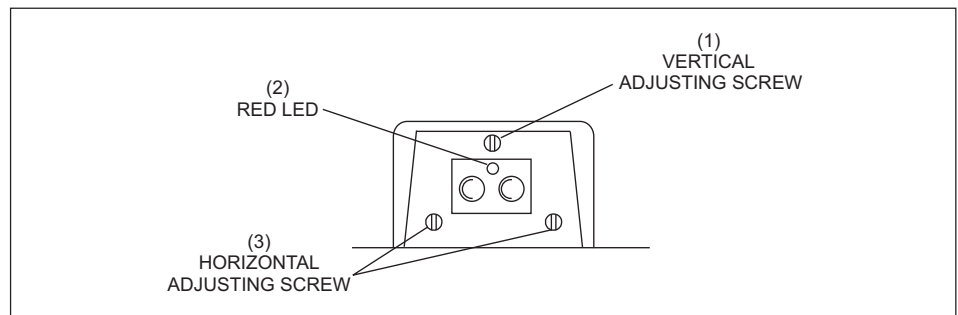

Figure 5-2. Ball Detect Adjusting.
The red LED (Light Emitting Diode) mounted on the ball detect is “on” when the beam is not being received back from the reflector. This indicates a ball or some object is in the beam’s path or there is an alignment problem. Refer to *Figure 5-2*.
- d. Using the vertical and horizontal adjusting screws (refer to *Figure 5-2*) move the beam until it is aimed exactly on the center of the mounted reflector.